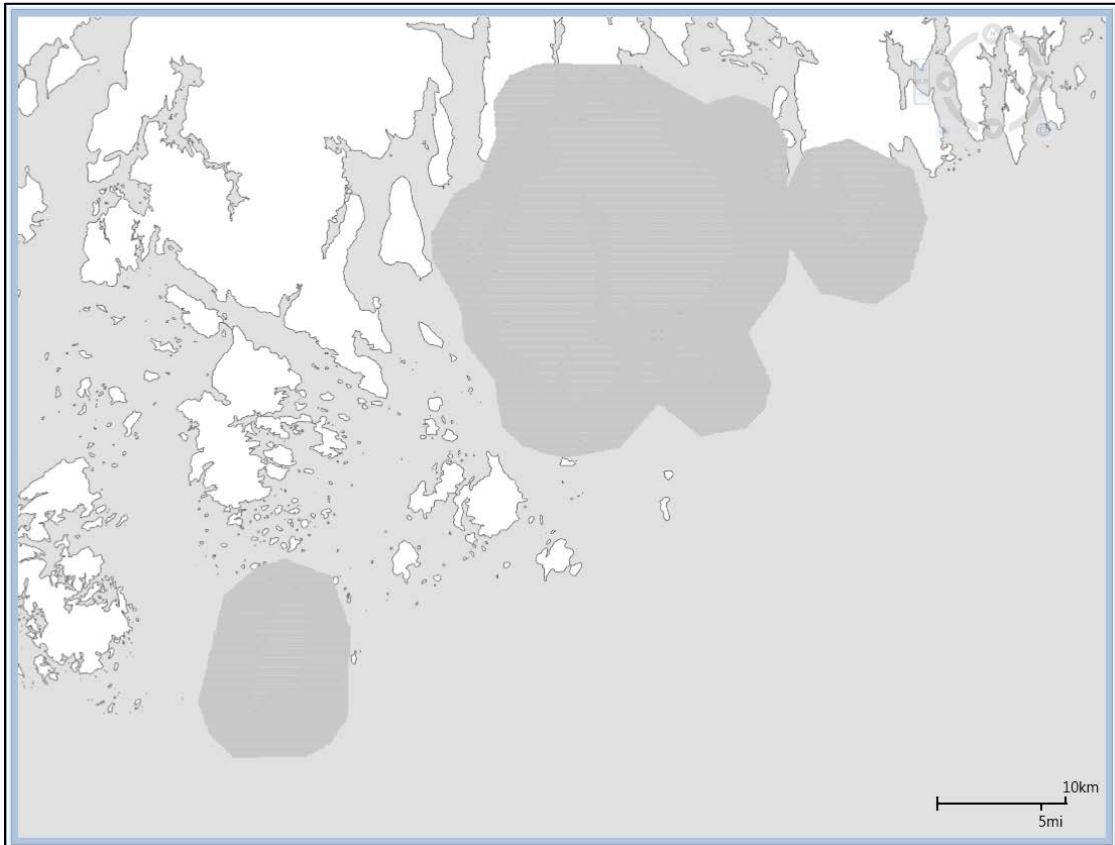

Figure 5-28 Sample Ambient Map Layer
3. The ambient map layer is displayed on the map (Figure 5-28) and in the *Layers* manager.